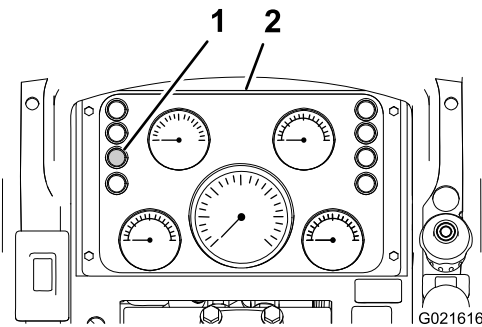

Figure 48
2. Check the restricted air-cleaner light on the instrument cluster (Figure 48).